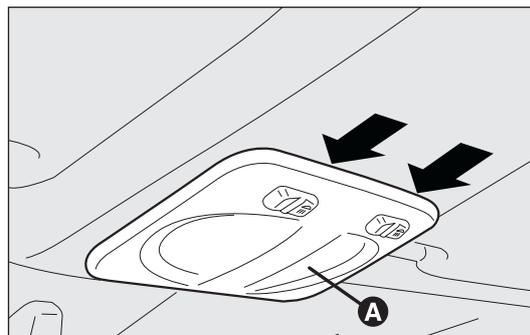

fig. 175
- manipulate the points shown by the arrows and remove light A-fig. 175;
- close the flap B and fasten the courtesy light A-fig. 175 in its housing, making sure it is locked in correctly.